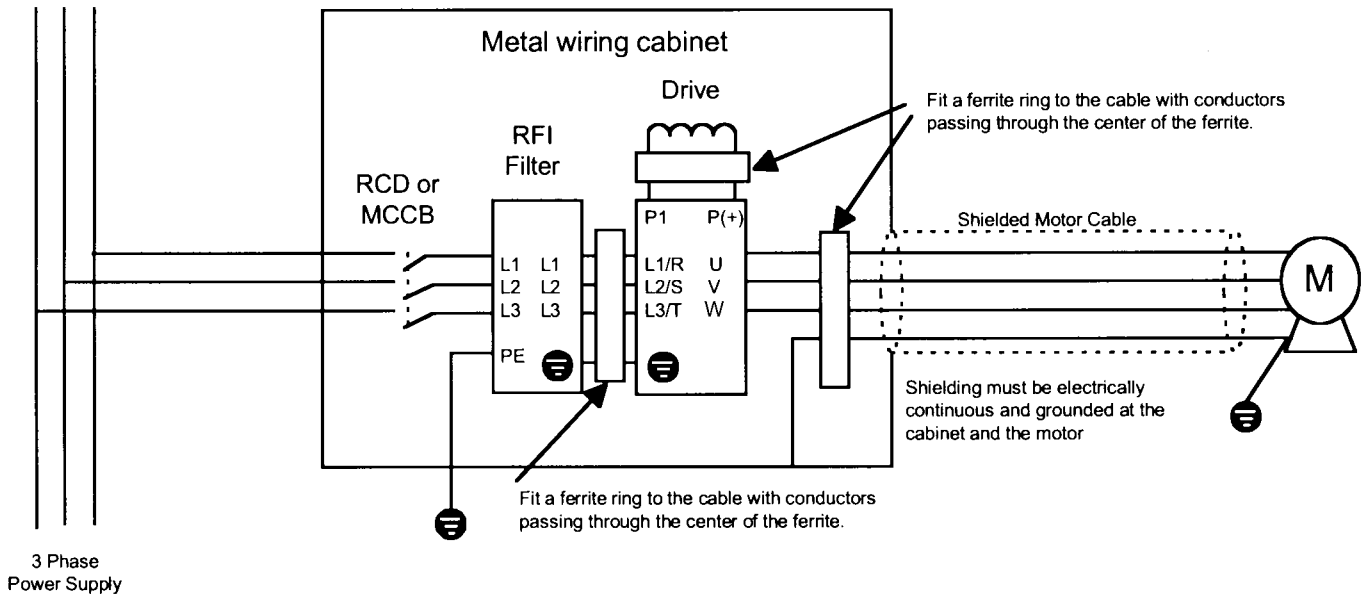

Figure 7 460V 500HP and higher
- 6) When a ferrite ring is provided with the filter, fit the ferrite ring so the conductors pass through the center of the ferrite. Wire the cable according to Fig.6 or Fig.7, paying attention to the applied drive type.